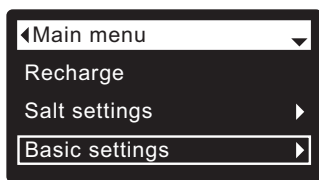

FIG. 106
1. From any of the rolling status screens, press the SELECT (O) button to display the **Main menu**.
2. Press the DOWN (▼) button to scroll through the menu options until **Basic settings** is highlighted (See Figure 106).